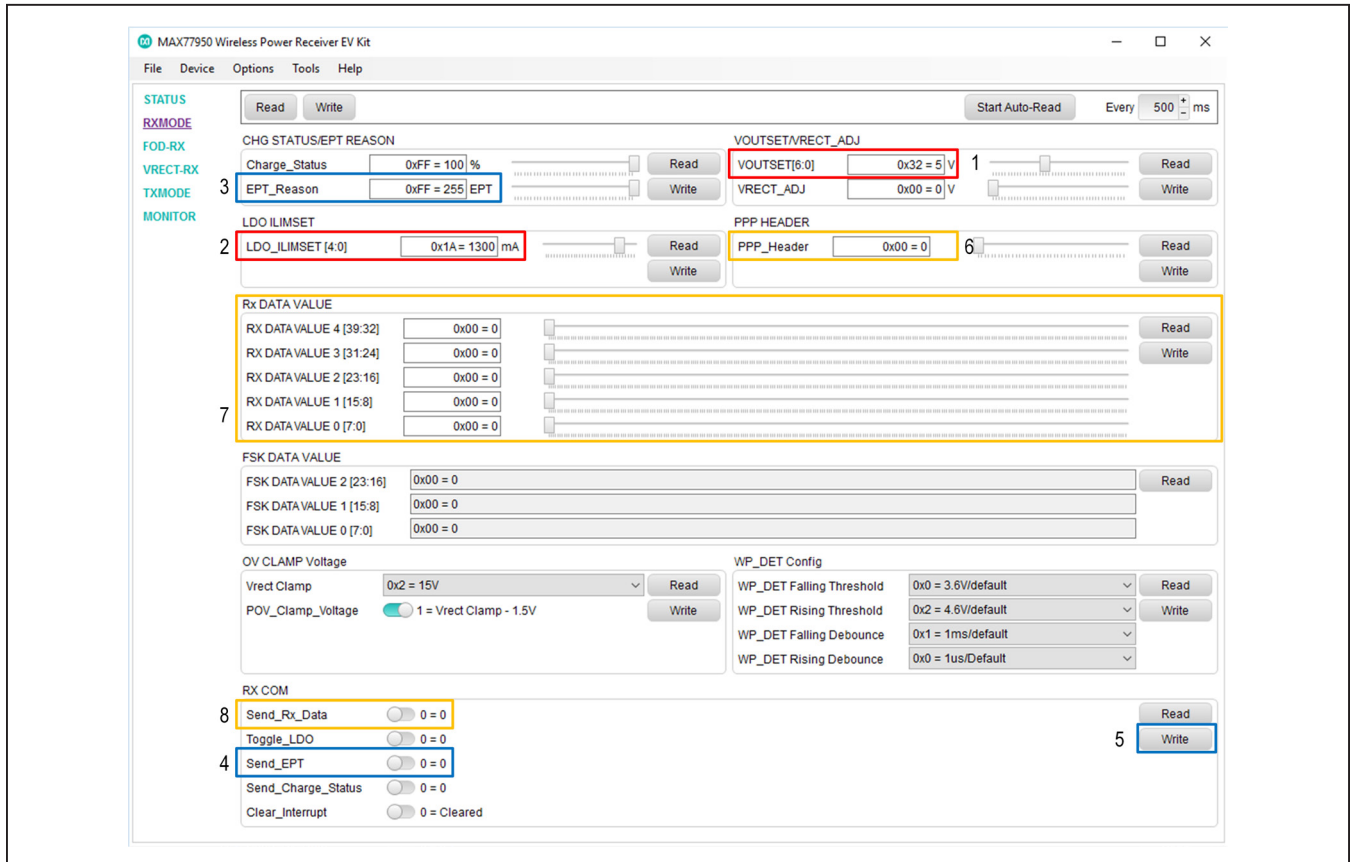

Figure 3. MAX77950 EV Kit GUI (RXMODE Tab)
- The LDO output voltage (VOUTSET) and the LDO current limit (LDO\_ILIMITSET) can be changed by the user. As seen in box #1 in Figure 3, the default value of VOUT is 5V.
- The end-power-transfer (EPT) packet can be sent manually by the GUI along with the reason for EPT. The reason for EPT must be set before sending the EPT packet (Figure 3).